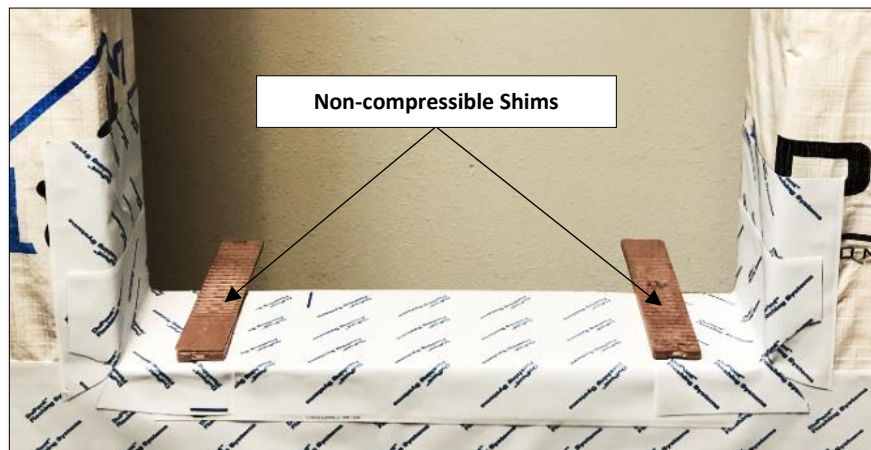

Figure 10
2.9 Prior to placing the unit into the opening, place a 1/4" non-compressible shim at each corner of the bottom sill and on either side of any mullions (see Figure 10). Use additional shims under the sill support block as necessary to achieve a level unit.